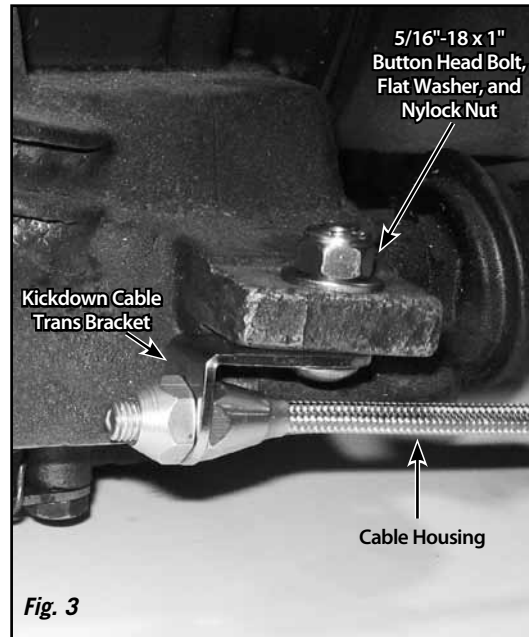

Fig. 3
Step 2: Install the kickdown cable trans bracket onto the bottom of the boss on the transmission with the vertical ear towards the front and pointing down, as shown in Fig. 3.